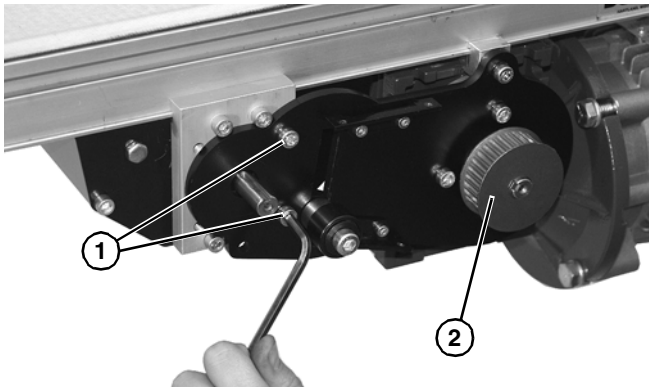

Figure 3
4. Tighten two socket head screws (**Figure 3, item 1**) to 60 in-lb (7 Nm).
5. Install drive pulley (**Figure 3, item 2**) onto gearmotor shaft.